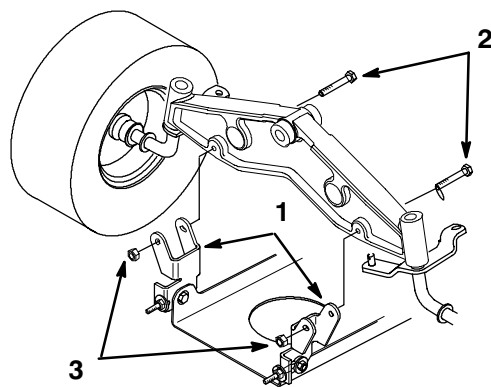

Figure 44
5. Install the mower pivot mount brackets onto the front axle with bolts and lock nuts (Fig. 44). Tighten fasteners.